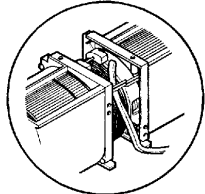

Figure 14
4. Reassemble the blower wire. See Figure 14.